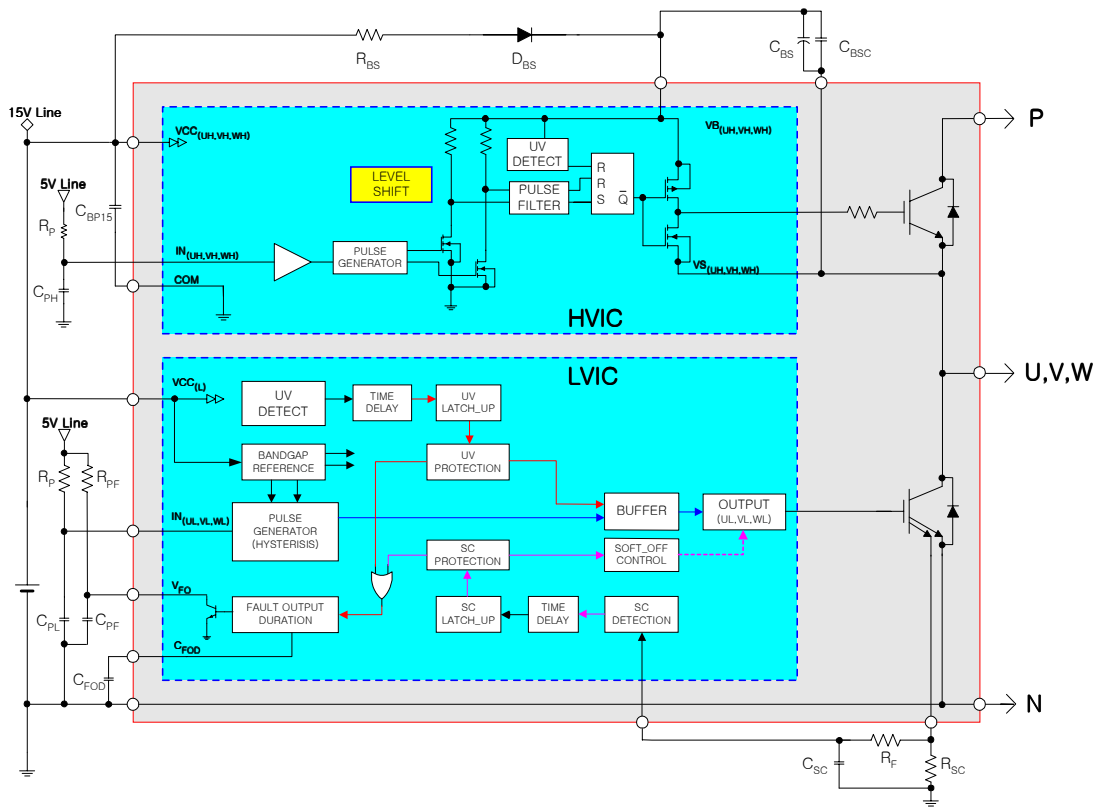

**Fig. 10. Mounting Screws Torque Order (1 → 2 → 3 → 4)**
- 7. Avoid one side tightening stress. Fig.10 shows the recommended torque order for mounting screws. Uneven mounting can cause the SPM ceramic substrate to be damaged.